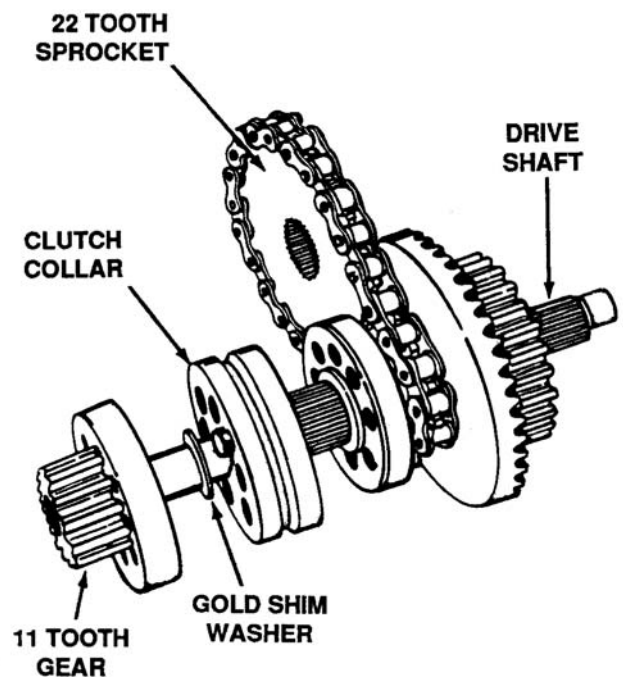

Figure 5-45. Removing 11 Tooth Gear, Shim Washer and Clutch Collar
22. Remove the 11 tooth gear and the gold shim washer which protects the bronze bushing. See Figure 5-45.